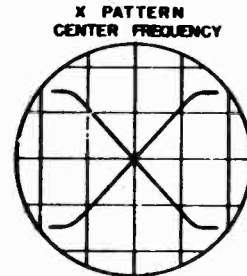

FIG 1
5. Turn variable condenser fully open, and band switch to right (FM).
8. Adjust ratio detector secondary slug No. A8 to center the cross over point of the pattern. Pattern should look like Fig. 1 with the same amount of curve on both ends, and the cross over point in the center.